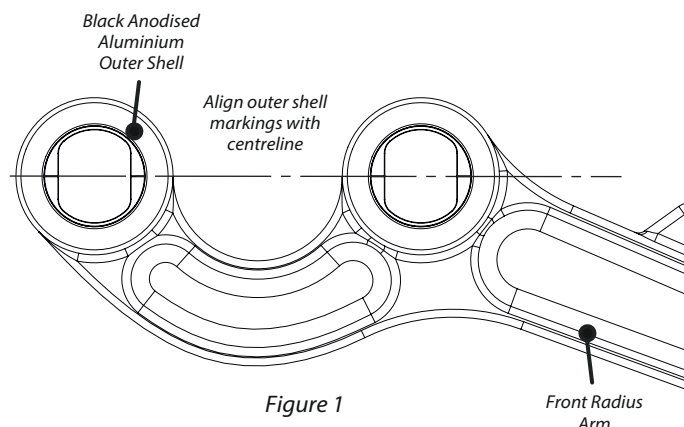

Figure 1
3. Fit the black anodised aluminium outer shell into the radius arm, taking note of the correct alignment as shown in Figure 1.